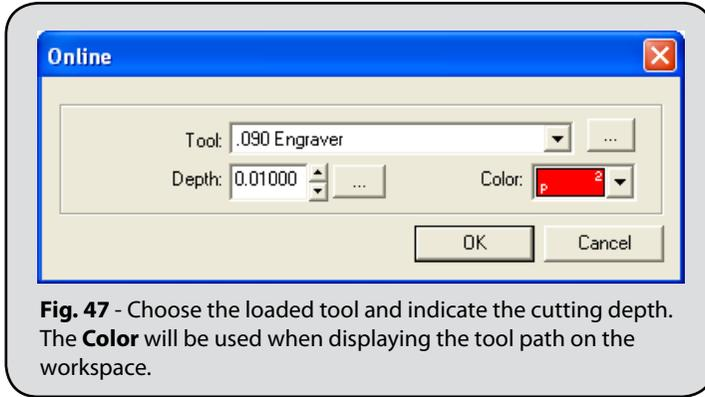

Fig. 47 - Choose the loaded tool and indicate the cutting depth. The **Color** will be used when displaying the tool path on the workspace.
4. The **Online** dialog will open. For this example, a 0.005 ¼” Engraver was used, and the **Depth** was set to 0.01” (Fig. 47).